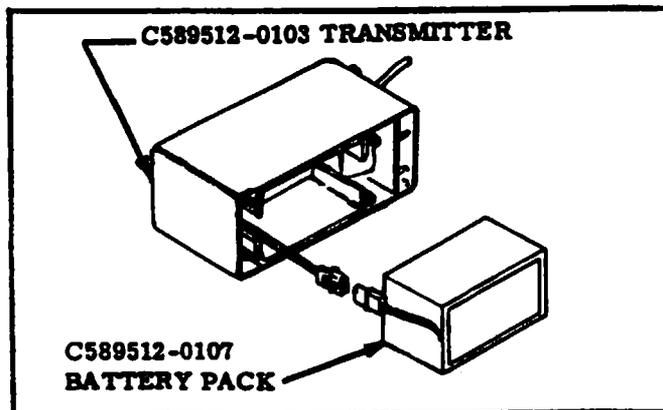

Figure 17-20. Battery Pack Installation
17-132. REMOVAL AND INSTALLATION OF BATTERY PACK. (Refer to figure 17-20.)
- d. Place new battery pack in the transmitter with four batteries as shown in the case in figure 17-20.
- e. Connect the electrical connector as shown in figure 17-20.